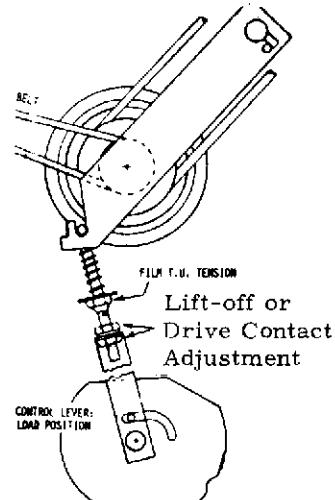

Figure 3-29. FILM TAKE-UP TENSION
- Slightly loosen two screws visible through the front of the lens mount (41).
- Close lens mount slowly by lifting control lever, noting contact between pressure shoe and left edge (viewed from front) of the aperture plate (53).
3. Film Take-Up Tension (Fig. 3-29)